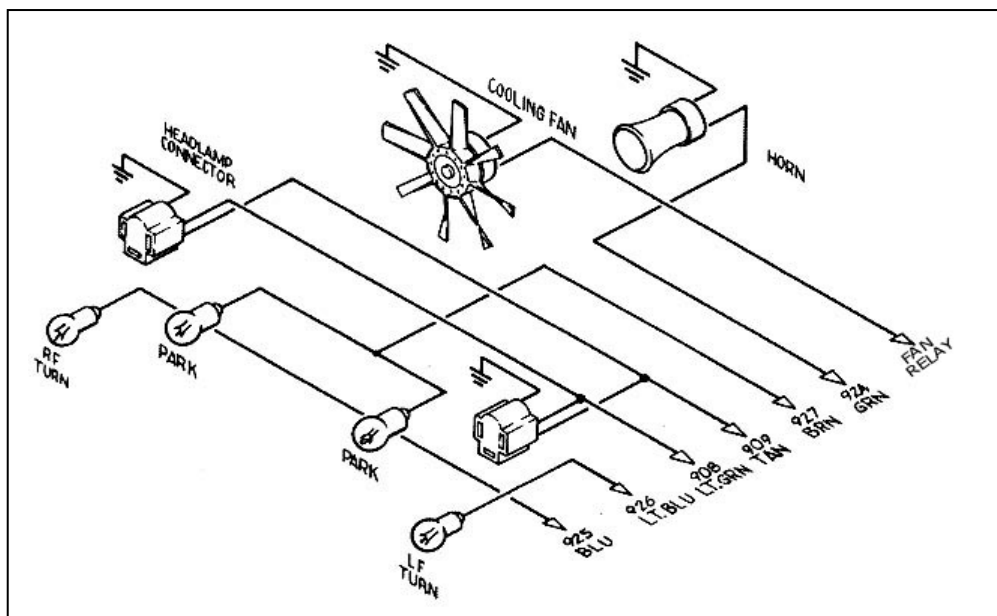

Figure 10-4C HEADLIGHT SECTION A Wiring
10.5 HEADLIGHT SECTION A. See Figure 10-4C.